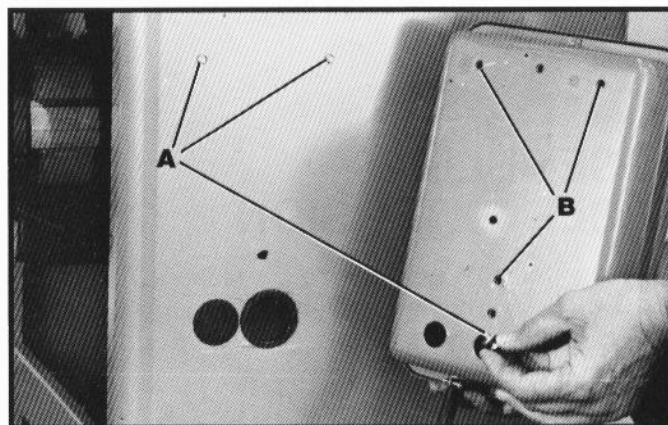

Fig. 7
Assemble the starter box to the saw cabinet using 1/2" long hex head screws (A) Fig. 7, with lock washers, thru the rear of the machine and into the three tapped holes (B), on the back of the electrical box.